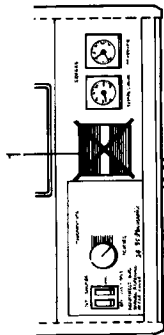

Fig. 1
In this mode the timed/rest/constant switch must be in the closed i.e. constant position fig. 1.
Remove the clock aperture blanking plate (1) (fig 1) by squeezing the two lugs on the rear of the plate together and push the plate out.